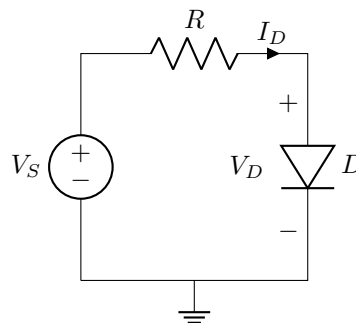

Figure 1: Forward-bias pn junction I-V characteristic measurement circuit.
In this portion of the experiment, you will measure the forward-bias current-voltage characteristics of a silicon diode. Begin by constructing the circuit shown in Figure 1 on your breadboard using the small-signal silicon diode and the 1 k Ω resistor. Ensure that the diode is oriented correctly with the anode connected toward the positive supply terminal and the cathode toward ground. Connect one DMM across the diode terminals to measure the diode voltage V_D directly. To measure the current through the diode I_D , you have two options: either connect the second DMM in series with the circuit (being careful to observe the current measurement limits of your meter), or measure the voltage across the resistor and calculate the current using Ohm's law ($I_D = V_R/R$). The second method is often preferred as it avoids potential issues with meter burden voltage.
2. For the circuit in Figure 1, assume $V_S = 5$ V, $R = 1$ k Ω , and the diode forward voltage is 0.7 V when conducting. Calculate (a) the voltage across the resistor, (b) the current through the diode, and (c)